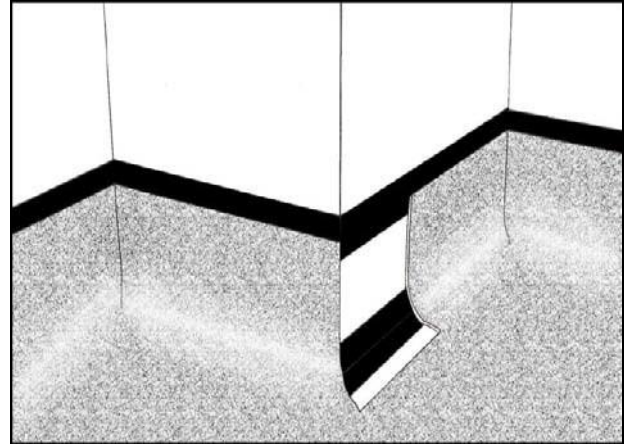
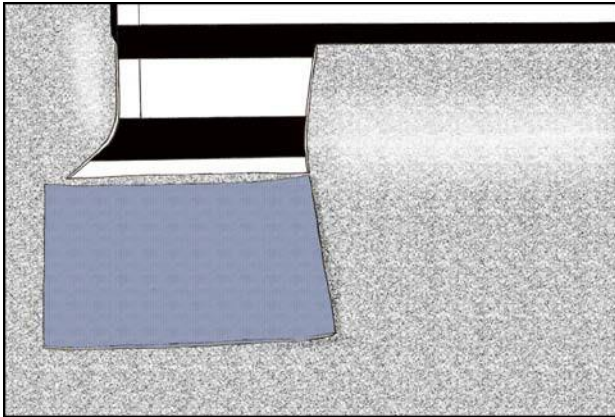

Fig 7.
Fig 8.
2. Cut in the back and front mitre, (See Fig 7.) then, cut in the section to take the infill piece. (See Fig 8.)